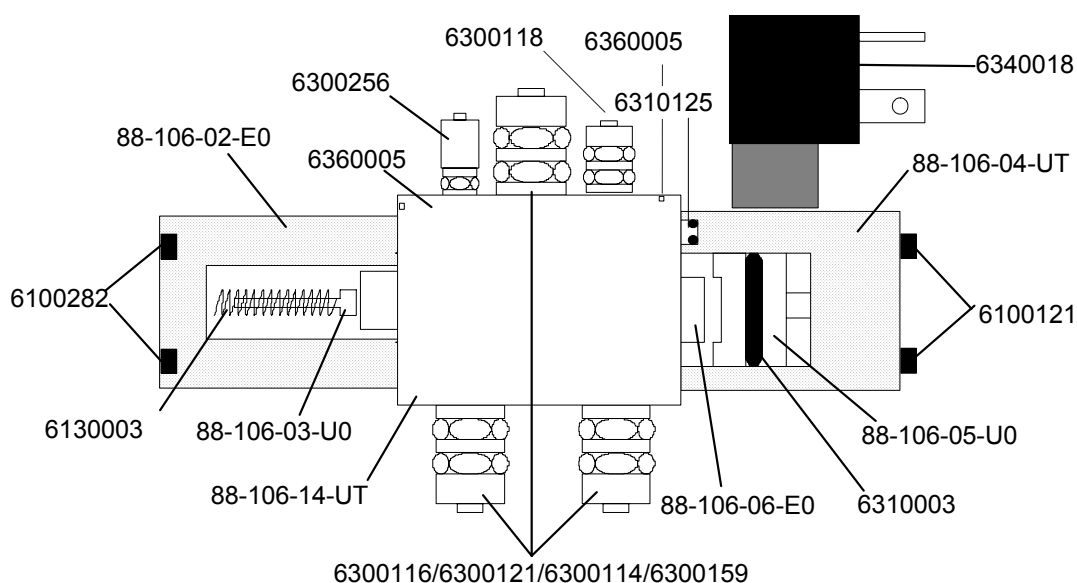

Fig.1
4. Mettre le piston poussoir **88-106-05-U0** et le joint **6310003** dans le corps de poussoir **88-106-04-UT**. Placer le joint **6310130** (fig.1).
4. *Place the pushing piston **88-106-05-U0** and the O-ring **6310003** in the pusher body **88-106-04-UT**. Place the O-ring **6310130** (fig.1).*